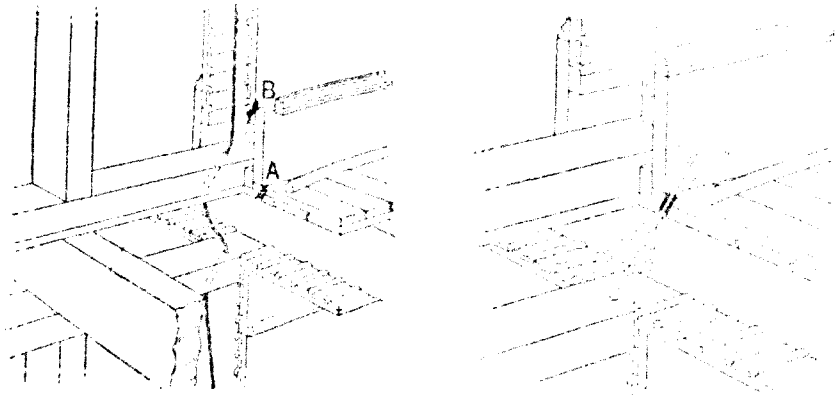

Fig. 5.
2.16 Partitions—Plates Above and Below Joist: Make certain that one partition is directly above the other. Loosen quarter round, and bore $3/8$ inch hole through floor so that quarter round will cover it when replaced. Pass bit through hole until plate underneath is encountered. Locate edges of plate by moving bit across plate as shown in Fig. 5. Bit will strike plaster keys of ceiling while plate itself will be free of obstructions.
2.18 Bore $\frac{3}{8}$ inch hole from cellar through floor and into partition. Fish out ferret, tie wire to it and pull through to second floor, pulling sufficient slack to reach set. Bore hole through partition at point where set is to be placed and drop ferret down to plate. If plate is encountered, remove molding above baseboard, bore $\frac{3}{8}$ inch hole, such as at point B of Fig. 5, and then bore through plate above joist. Pass ferret through hole at set and drop to plate. Find ferret, by means of fish tape or umbrella rib and pass it through hole in plate. Fish ferret up through hole in floor and tie wire to it. Feed wire back through hole A and pull up through upper plate and partition as shown. This method of wiring can be followed only where there is no bridging in partition on first floor.